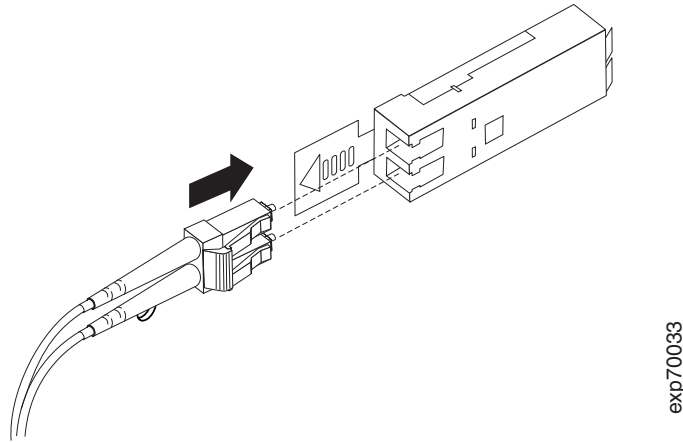

Figure 27. Inserting an LC-LC fibre channel cable into an SFP module
4. Carefully insert that same end of the LC-LC cable into an SFP module that is installed in the storage expansion enclosure. The cable connector is keyed to ensure it is inserted into the SFP module correctly. Holding the connector, push in the cable until it clicks into place, as shown in Figure 27 on page 38.